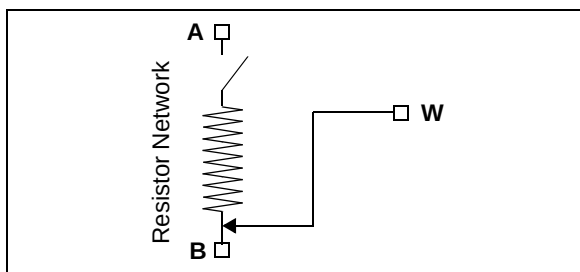

**FIGURE 5-2:** Resistor Network Shutdown Configuration.
- The PxW terminal is simultaneously connected to the PxB terminal (see Figure 5-2)